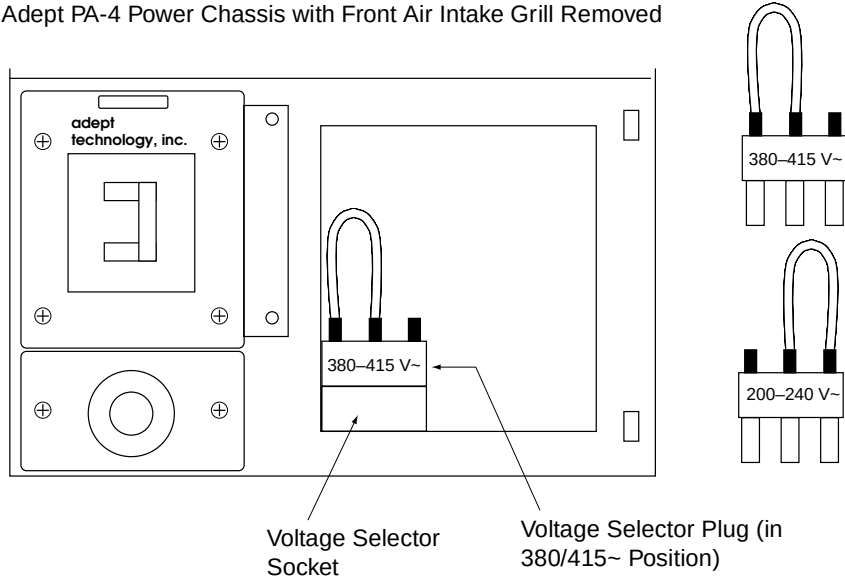

Figure 5-6. Changing Voltage in Power Chassis
2. Inspect the voltage setting; it is marked on the front of the voltage selector plug. To change the voltage setting, remove the selector, rotate it 180 degrees so the required setting is shown, and replace it (see Figure 5-6 on page 101).